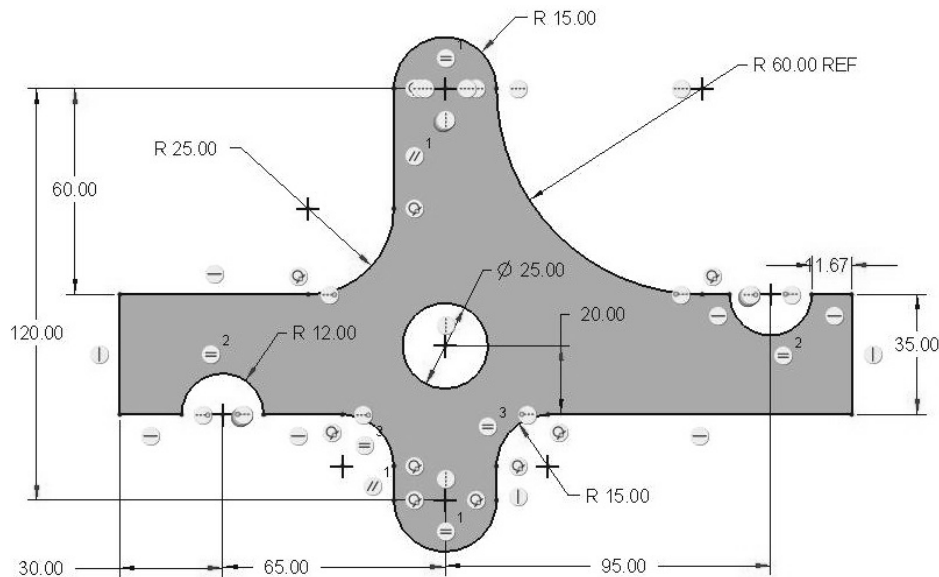

Figure 3-81 Problem 12—Ratchet Pawl
- 3.12 Challenge problem** - Draw the "Ratchet Pawl" (Figure 3-81). **Design Intent**—All arcs are tangent to each other or the straight edges. The R 12.00 arcs are centered are aligned with the horizontal edges. Pay close attention to the constraints shown. (>File>Options>Sketcher, change to 2 decimal places before sketching.)